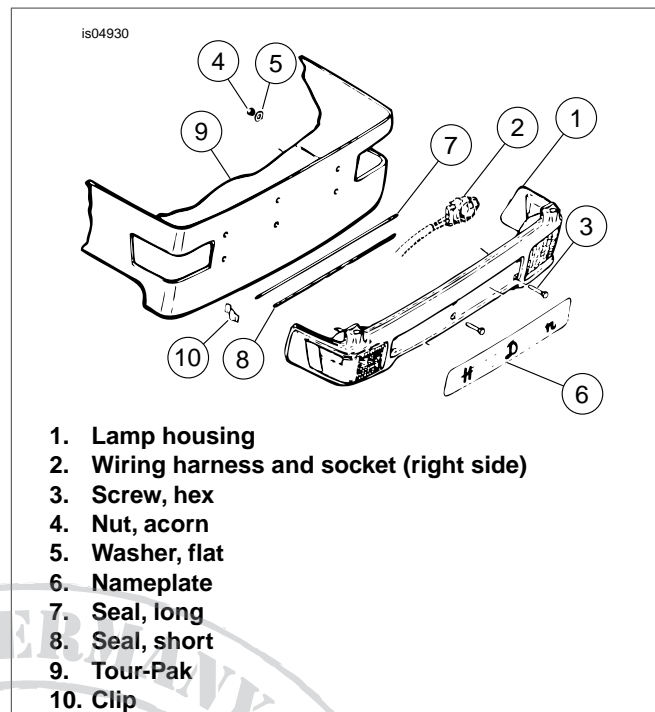

Figure 3. Wrap-Around Light Assembly
10. See Figure 3. Remove left lamp socket from lamp housing (1) by depressing locking tab and rotating downward in direction of wire leads. Remove right lamp socket (2) from lamp housing by depressing locking tab and rotating upward in direction of lead wires. Place lamp housing (1) in openings and press in tightly around both corners. Check to be sure there is clearance between each opening and lamp housing around entire perimeter. If there is interference, the housing will not fit correctly. Enlarge any interference area with a file.
15. See Figure 3. Insert the six hex screws (3) through holes in lamp housing (1) and Tour-Pak (9). From inside Tour-Pak, place a flat washer (5) on each screw and install an acorn nut (4). Tighten each nut (4) snugly, but do not tighten to where heads of screws turn inside square seat in lamp housing.
18. See Figure 3. Strip paper backing from Harley-Davidson nameplate (6) and press into place over screw heads at lamp housing (1).